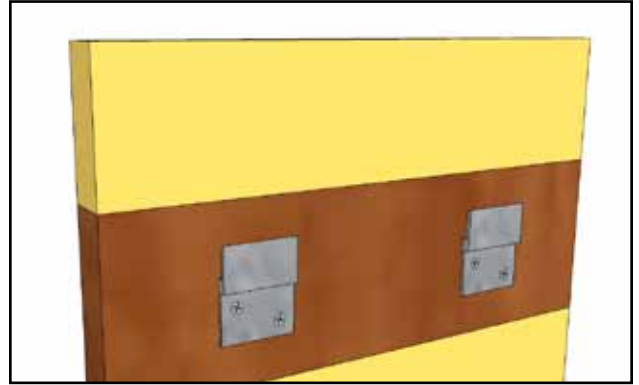

Figure 5
5. Install fiberglass in between blocking (Figure 5)